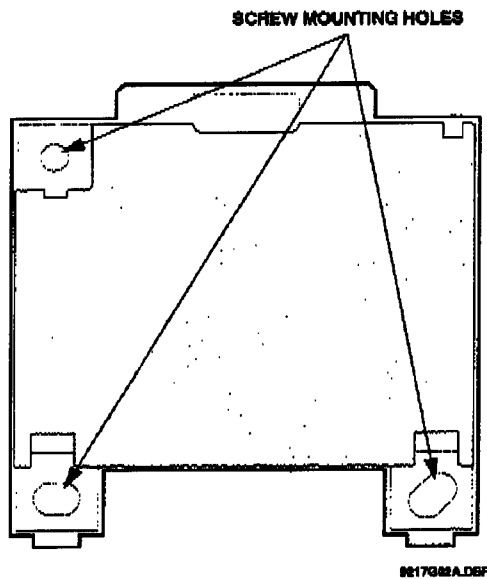

Figure 4. While holding the receiver against the wall, mark the location of the top-left and lower-right mounting holes.
- 3) Hold the receiver against the wall at the desired height and location (see Figure 4). Leave at least ten inches above the base for the antenna.